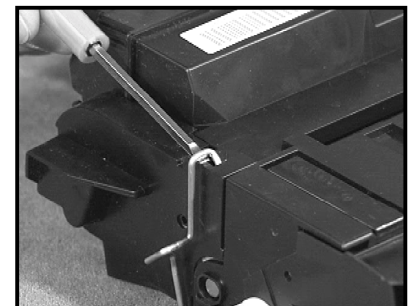

Figure 2
2. Remove the drum shutter arms from the cartridge and set the shutter and shutter spring aside (fig. 2 & 3).